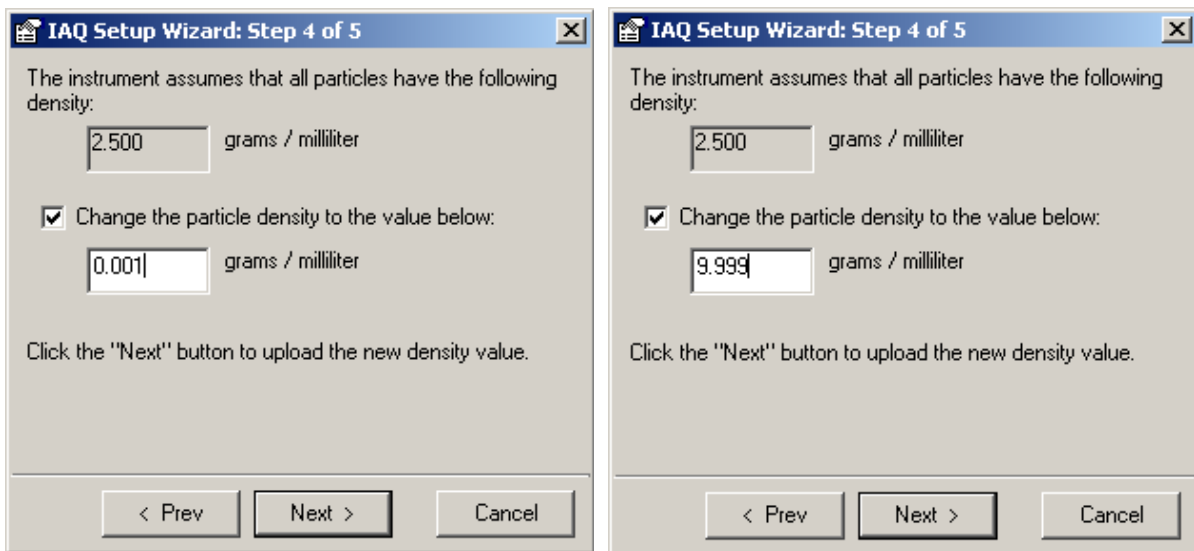

Figure 5-8 Minimum and Maximum Values
7. The default value used by the IAQ Handheld for the particle density is the same as carbon, 2,500 grams per milliliter. Values allowed are from 0.001 to 9.999, illustrated in Figure 5-8.